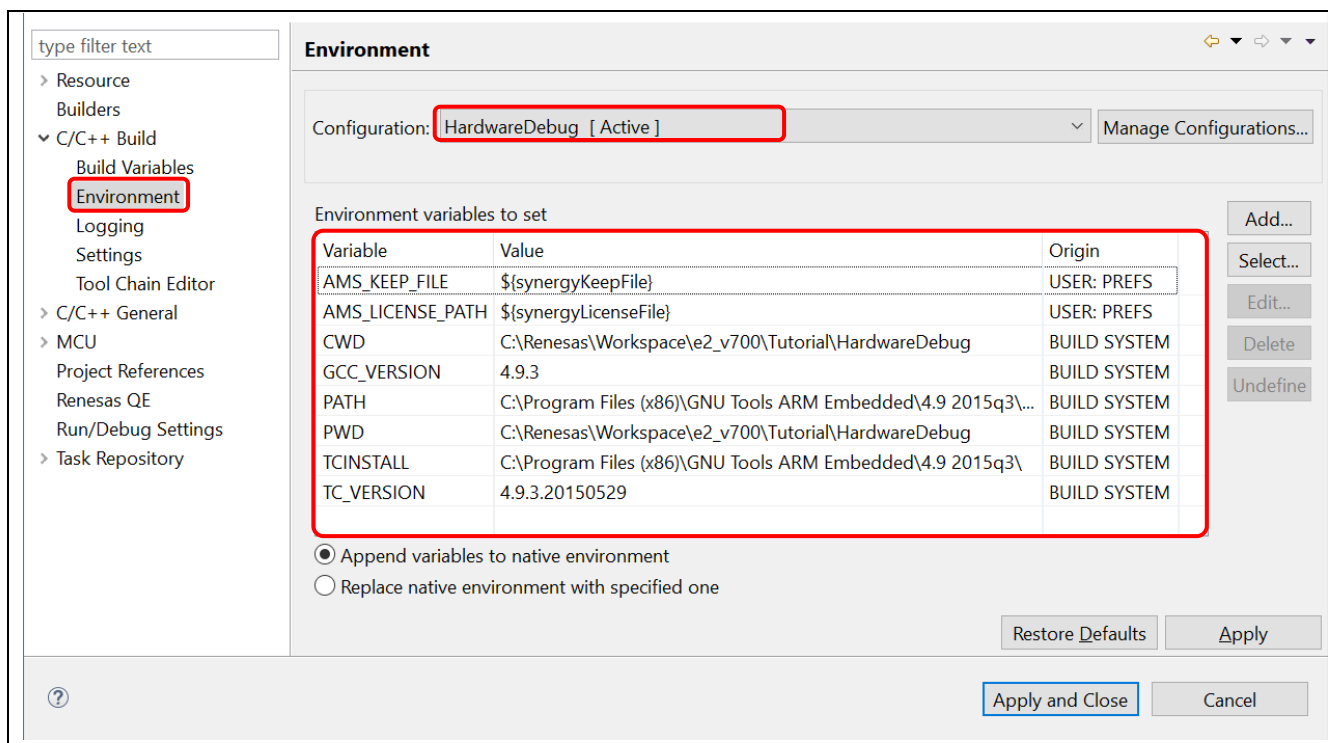

Figure 4-3. Build Settings for Compiler: Environment
- The build option allows user to retain all the toolchain configuration settings, including the path name specified by the environment variables. The current build configuration is **HardwareDebug**, as shown in Figure 4-3.